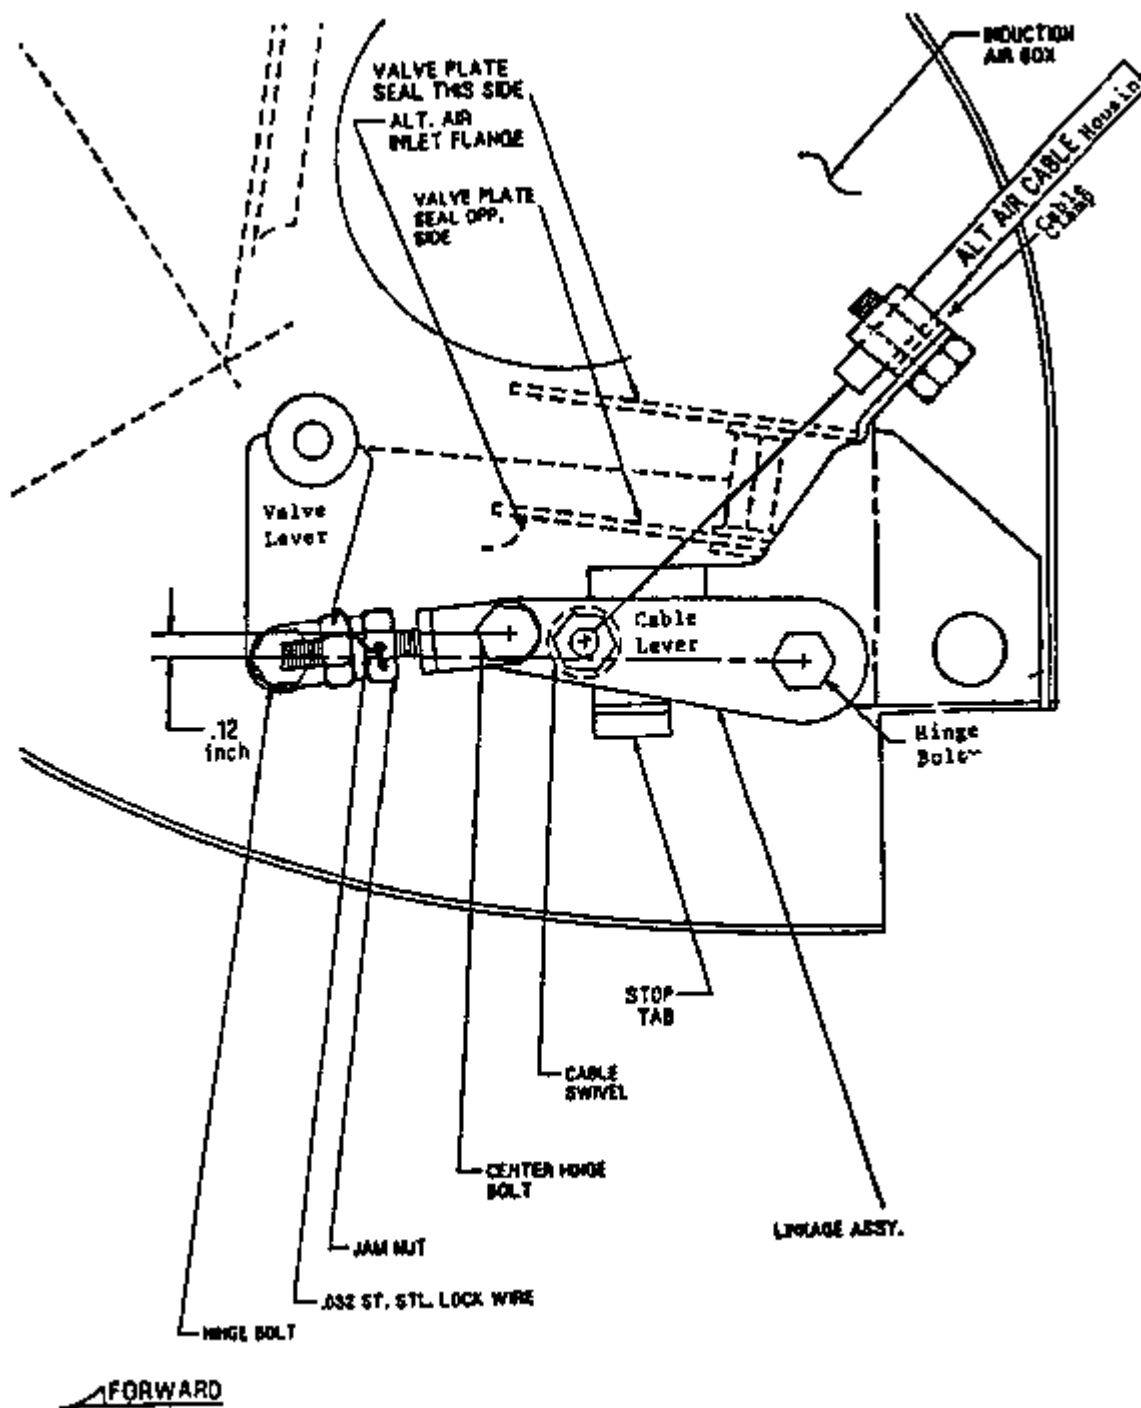

FIGURE 1
- (b) Determine whether or not the alternate air valve linkage shown in Figure 1. has been installed on the left side of the engine air box.
- (1) If the alternate air valve linkage shown in Figure 1. is not installed, install the Alternate Air Valve Modification Kit offered in Piper Service Letter 985 dated April 18, 1986, in accordance with the instructions contained within the kit, and verify proper operation in accordance with the instructions in paragraphs (b)(2)(i) through (b)(2)(vii) below.
- (2) If the alternate air valve linkage shown in Figure 1. is installed, accomplish the following unless already accomplished in accordance with Piper Service Bulletin 852 dated November 14, 1986:
- (ii) Refer to Figure 1. and bend the stop tab so that the linkage is stopped 0.12 inch plus 0.060 minus 0.000 inch before center. This dimension is determined by measuring the perpendicular distance between a line through the centers of the cable lever and the valve lever hinge bolts and the center point of the center hinge bolt.